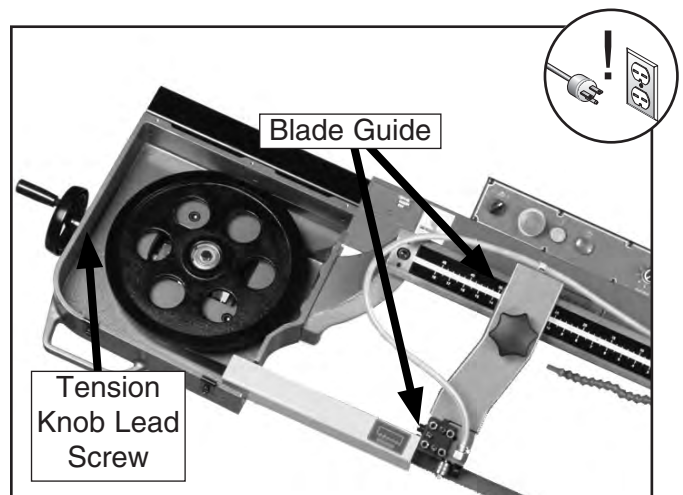

Figure 33. Main lubrication points.
- **Blade Tension Mechanism:** Open the main blade guard and drop a few drops of oil on the tension knob lead screw (see **Figure 33**).
- **Blade and Guides:** Drop a few drops of light machine oil on the blade and the blade guides daily, especially when cutting cast iron, as no cutting fluid is recommended (see **Figure 33**).